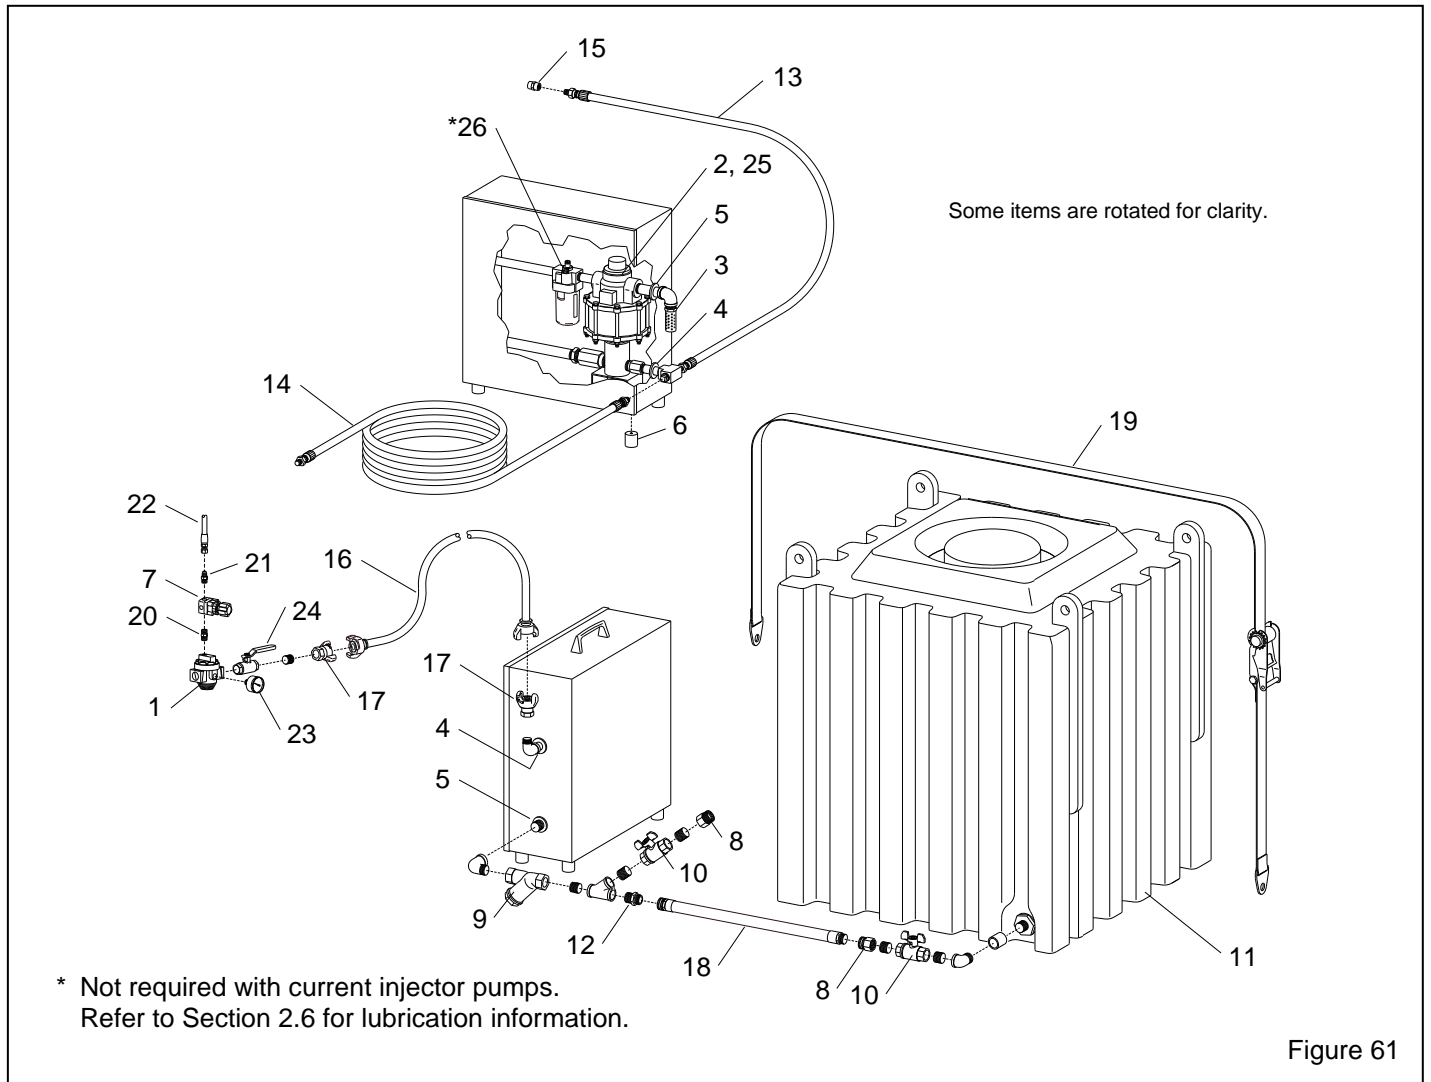

Figure 61
9.11 Pump Module and Water Tank – Figure 61